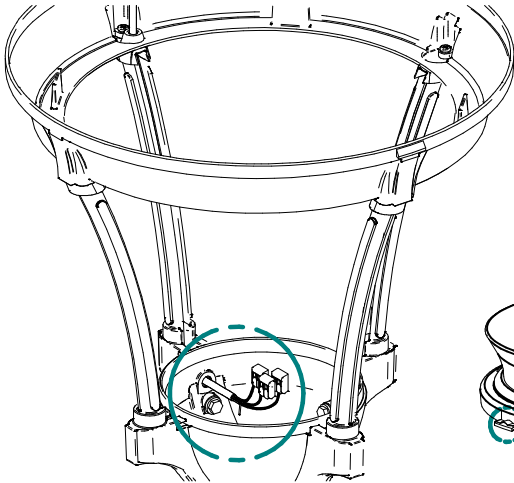

FIG. 6-1
1. Connect the provided waggo connectors to the power cable, use Brown, Blue and Black wires (see FIG 6-1). Cap off green/yellow and gray wires, these will not be used.